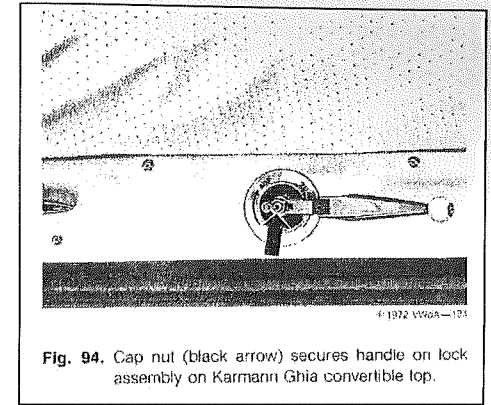

Fig. 94. Cap nut (black arrow) secures handle on lock assembly on Karmann Ghia convertible top.
2. Remove cap nut (Fig. 94) and take off top lock handle.